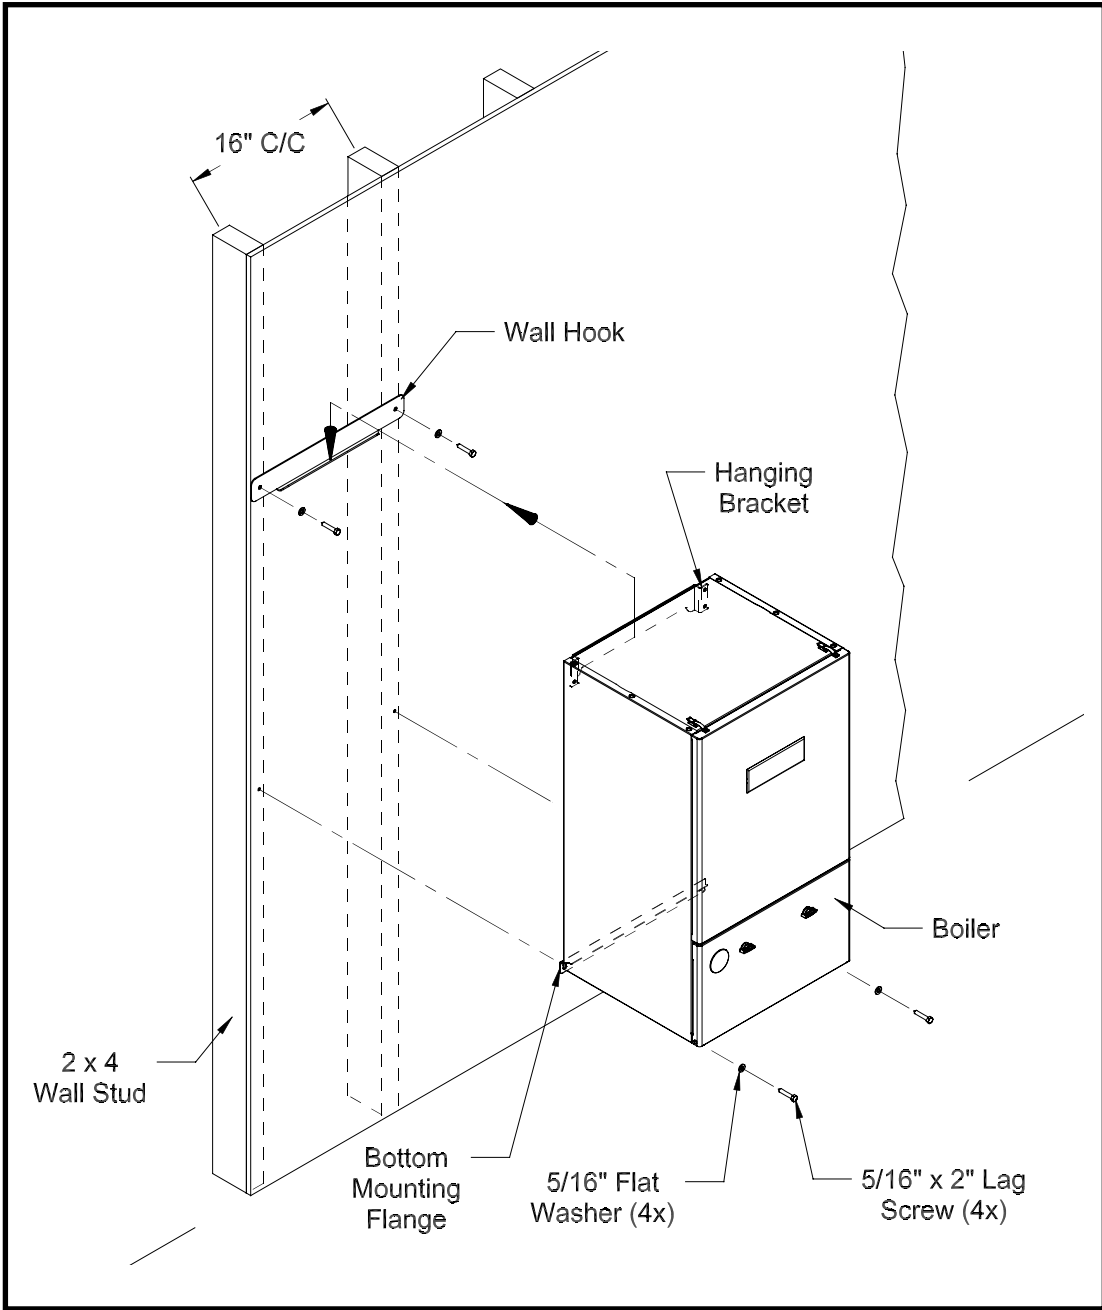

Figure 5.2 Boiler Mounting/Hardware
- 7) Attach the wall hanging hook using the $\frac{5}{16}$ " x 2" lag screws and washers, or other suitable anchors as appropriate (Figure 5.2). Make sure the hook is level.
- 8) Hang the boiler on the wall hook as shown in figure 5.2.
- 9) If not already done in Step (4) locate and drill holes "C" and "D" using the ob-round slots in the bottom mounting flange. Secure the bottom flange to the wall using the $\frac{5}{16}$ " x 2" lag screws, or other fasteners as appropriate (figure 5.2).